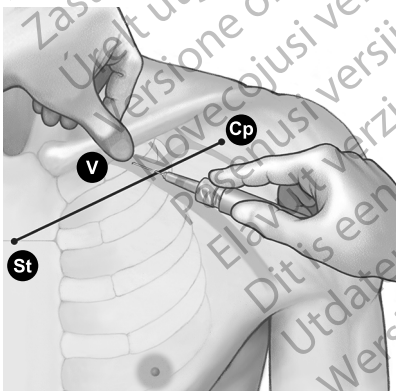

Figure 6. Location of thumb and needle entry
4. Press a thumb against the index finger and project 1–2 centimeters below the clavicle to shield the subclavius muscle from the needle (when hypertrophy of the pectoralis muscle is apparent, the thumb should project about 2 centimeters below the clavicle because the subclavius muscle should be hypertrophied as well) (Figure 6 Location of thumb and needle entry on page 18).